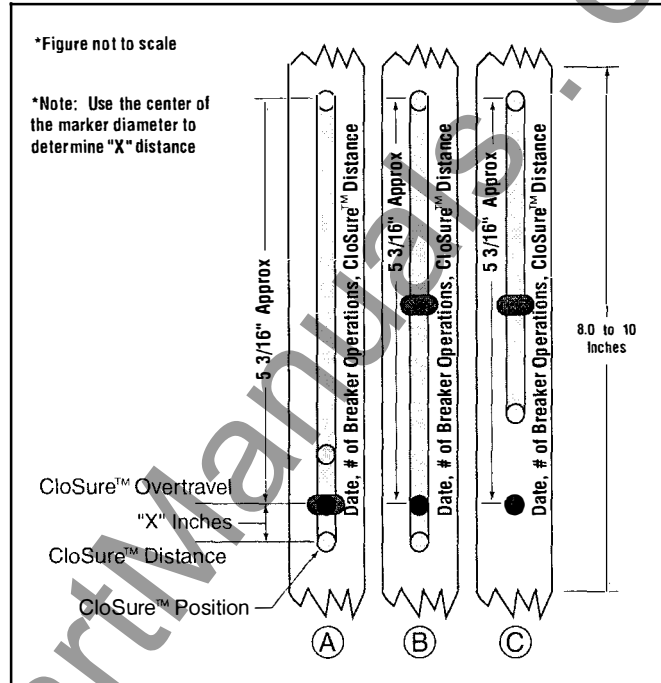

Figure 6-16 Illustrative Testing Tape Sample
**General Information:** The CloSure™ Test can be performed on the VCP-W, VCP-WR, VCPW-ND, DHP-VR, W-VACR, and W-VAC lines of vacuum circuit breakers. Refer to Table 6-4 for a list of circuit breakers. If the CloSure™ travel obtained is as specified, the mechanism performance is satisfactory. If the CloSure™ travel does not conform as shown in Figure 6-16, contact Eaton's Electrical Services & Systems for further information. (See Step 13).
**Step 13** - Evaluate the CloSure™ performance by comparing the test tape with illustrations in Figure 6-16. If the marking is similar to 6-16A, measure the over travel "x": If "x" is greater than or equal to 0.6 inches, the circuit breaker performance is satisfactory. If "x" is less than 0.6 inches or if the marking is similar to 6-16B or 6-16C, immediately contact the Production Integrity Center for Technical Support at (412) 787-6518.